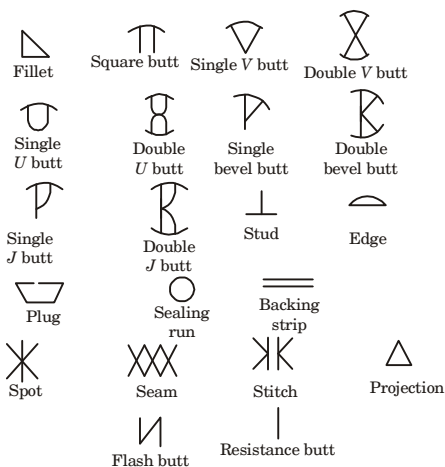

Fig. 1.
2. The basic symbols used to represent various types of welds are given below in Fig. 1.